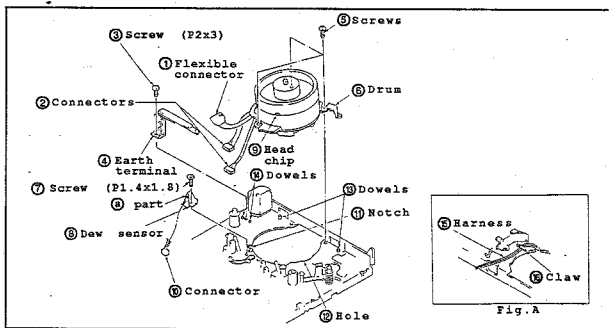

Fig. II-19
• Disassembling (Fig.II-19)
- (1) Set unloading state.
- (2) Unplug the flexible connector ① and the connectors ②.
- (3) In the same procedures in "3-2", detach the guide guard.
- (4) To detach the earth terminal ④, remove the screw ③.
- (5) To dismount the drum ⑥ from the chassis, remove the three setscrews ⑤.
- (6) Disconnect the connector ⑩.
- (7) To detach the dew sensor ⑧, remove the screw ⑦.
• Reassembling (Fig.II-19)
- (1) Mesh the ⑧ part of dew sensor ⑧ with the notch ⑪. Then, secure them with the screw ⑦.
- (2) Attach the connector ⑩.
- (3) Put the harness ⑤ of dew sensor ⑧ under the claw ⑫. (Fig.A)
- (4) Insert the connectors ② and the flexible connector ① into the chassis' hole ⑬.
- Then, mount the drum while aligning the dowels ⑭, and secure it with the screws ⑤.
- (5) While aligning the earth terminal ② with the chassis' two dowels ⑭, secure it with the screw ③.
- (6) In the same procedures in "3-2", attach the guide guard.
- (7) Attach two connectors ② and the flexible connector ① to the C.B.A..
*Notes: 1. Be careful not to flaw the head chip ⑨ and the tape path surface of drum ⑥.